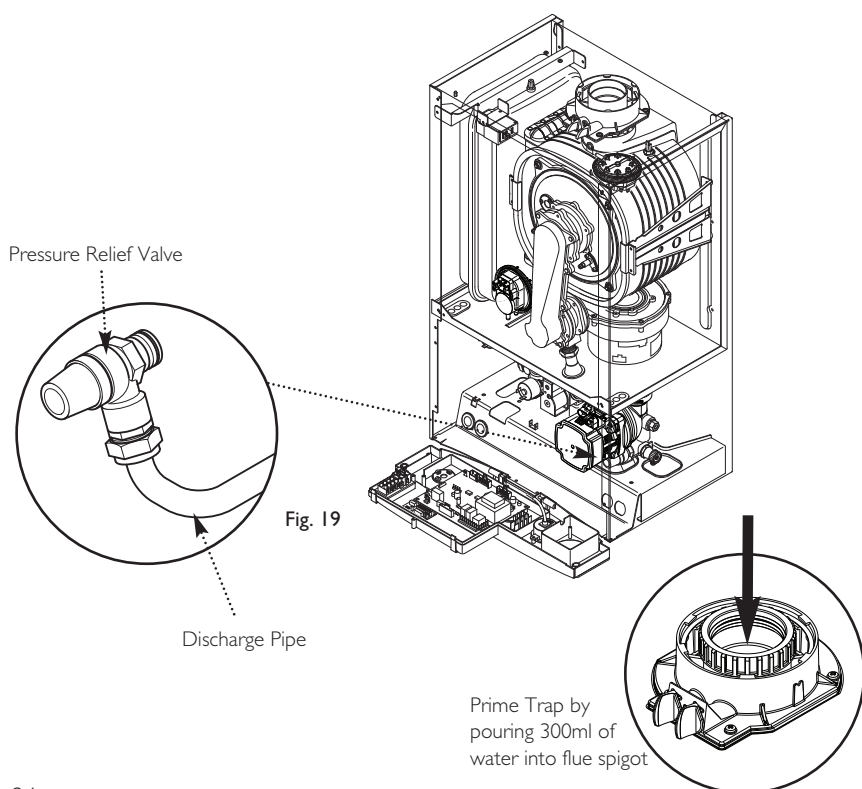

Fig. 19
9.4 Fitting the Pressure Relief Discharge Pipe (Fig. 19)